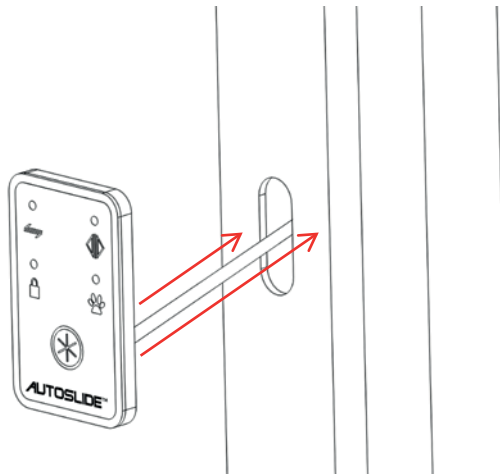

Figure 39: Remove the backing paper, connect the cable and press the sticky foam onto the door jamb.
6. Peel the backing paper from the other side of the double-sided foam. Connect the cable to the 7-pin connector (Figure 41), then firmly press the sticky side of the foam onto the door jamb (Figure 39).